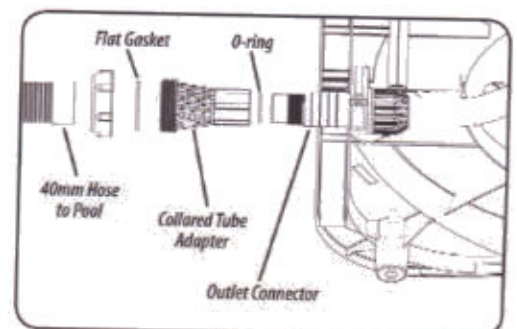

Figure 4
- 1) Attach the collared tube adapter with o-ring to the central hose connector under the base. Make sure the o-ring is in the collared tube adapter prior to attachment (See Figure 4).